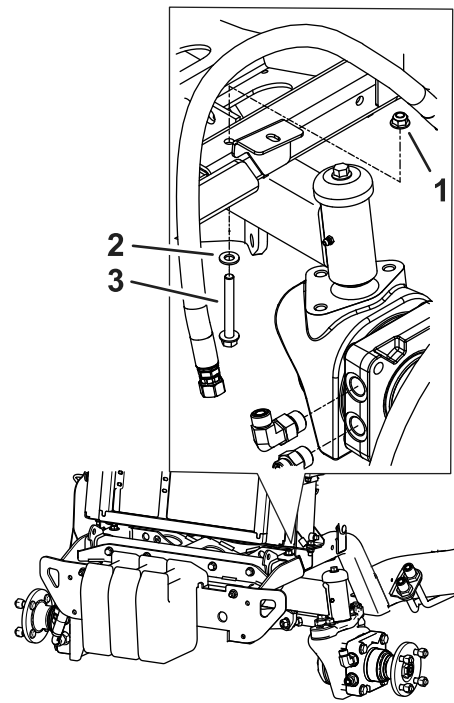

Figure 6
10. Remove the existing nut and bolt under the radiator that secures the bumper bracket (Figure 6).